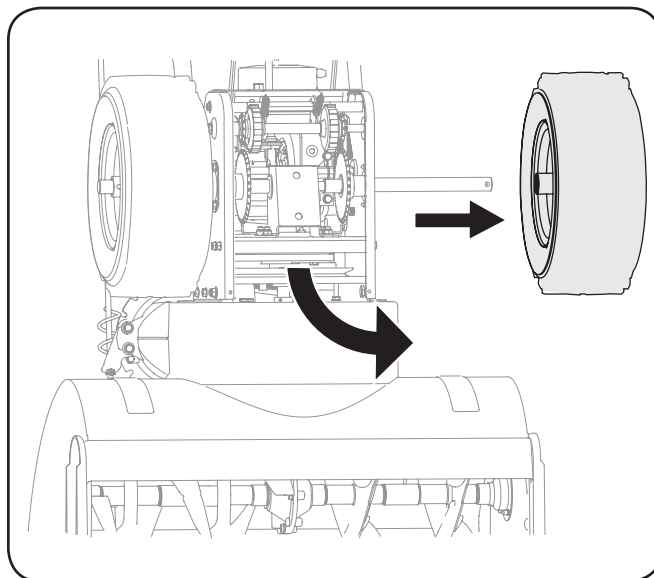

Figure 7-9
3. Remove screws from the frame cover underneath the snow thrower (refer to Fig. 7-9). Remove the right wheel from the axle.